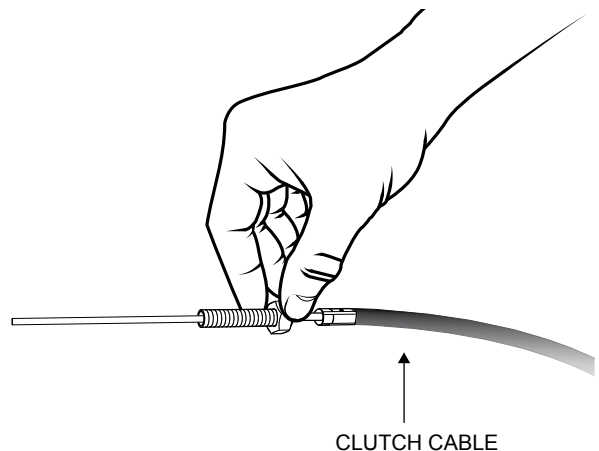

Figure 15. Clutch Cable with Ferrule
3. Insert ferrule over the end of the clutch cable as shown in Figure 15.